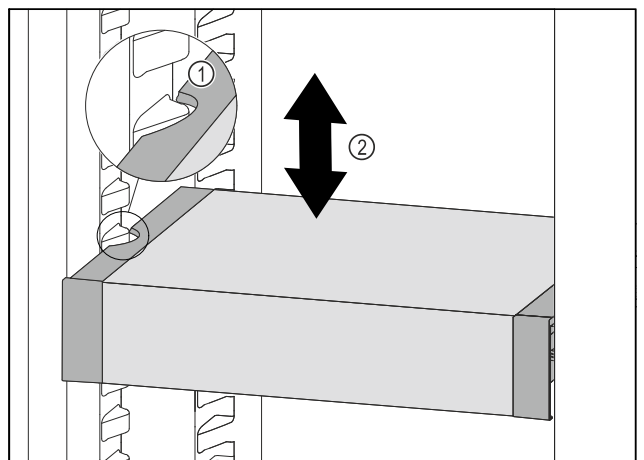

Fig. 82
- Pull VarioSafe forwards until the recesses in the side of the VarioSafe are at the level of the support rib in the refrigerator compartment. Fig. 82 (1)
- Move VarioSafe up or down in the refrigerator compartment until the desired height is reached. Fig. 82 (2)